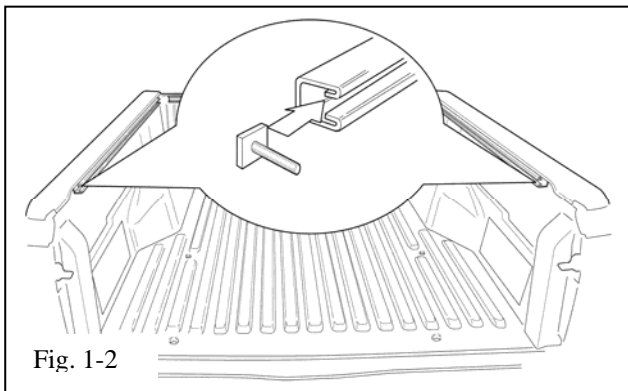

Fig. 1-2
- (b) Slide one clamp plate into each side rail. (Fig. 1-2)